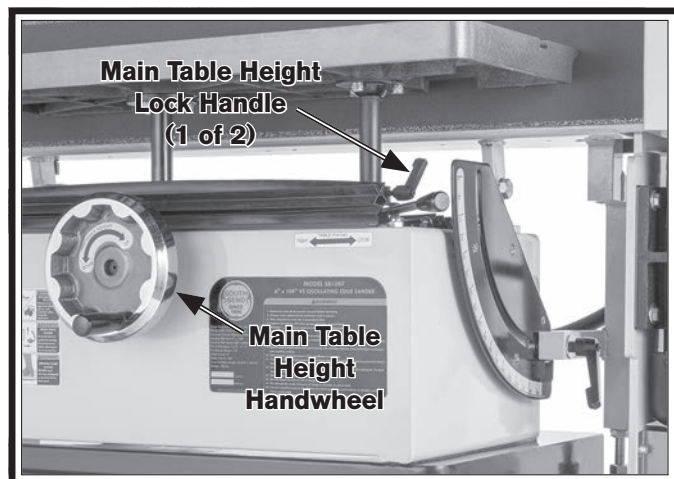

Figure 44. Main table height adjustment controls.
1. Loosen (2) main table height lock handles (see **Figure 44**).
2. Turn main table height handwheel clockwise to raise table or counterclockwise to lower table (see **Figure 44**).